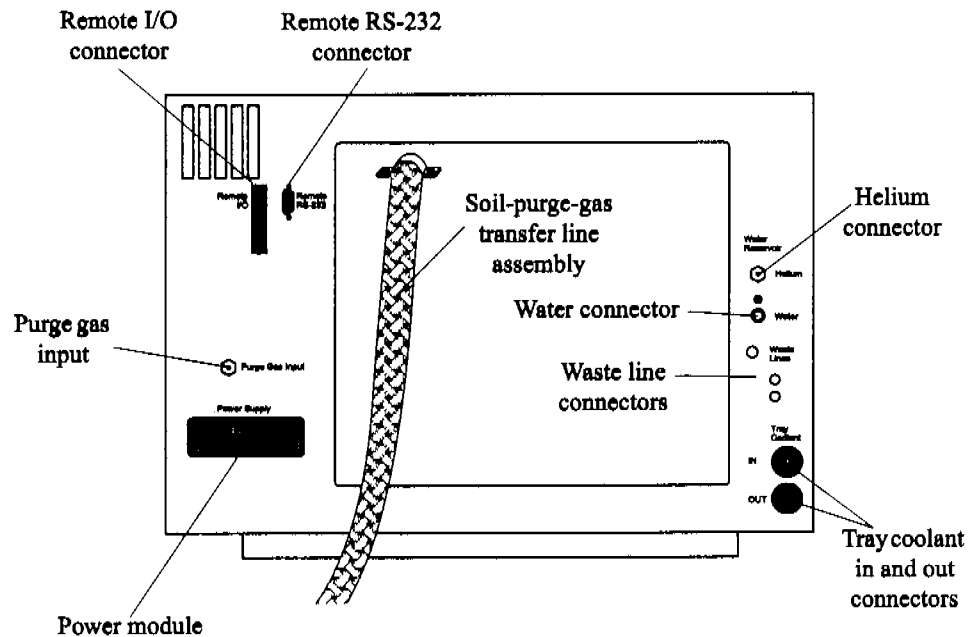

Figure 2.3. Model 4552 back view
2. Plug one end of the interface cable into the remote I/O (25-pin) connector on the Model 4552 back (Figure 2.3). Secure the cable with the two locking screws.
1. Connect the helium supply (ultrahigh purity, 99.999% GC/MS grade) to the purge gas input connector on the left side of the Model 4552's back panel using a 1/8" nut and ferrule (Figure 2.3).